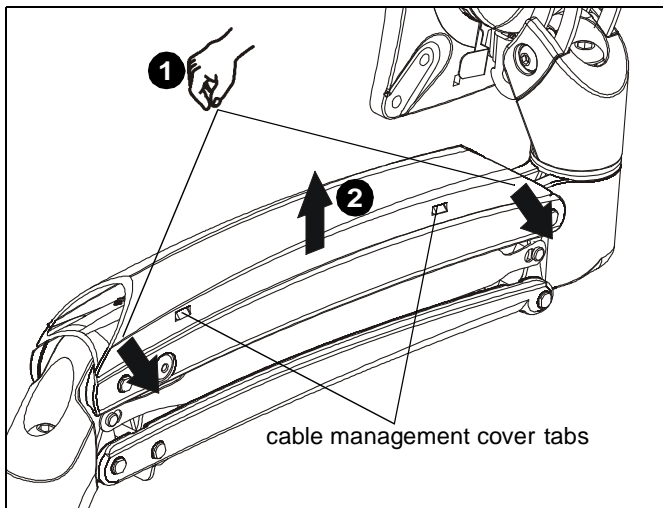

Figure 25
1. Press insides of cable management covers at both ends to unhinge tabs on either end of cable management cover on upper arm. (See Figure 25)
2. Lift cable management cover up until tabs are unhinged and cover is in the "open" position. (See Figure 25)